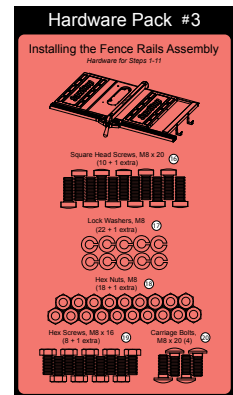

Fig. 1
1. Locate the front rail, the left and right rear rails, and hardware pack #3 (see Fig. 1). All of the hardware needed to install the rails is located on hardware pack #3. In order to easily identify the hardware used in each of the following steps, the different pieces of hardware are numbered on the hardware pack and in the figures. If you are missing hardware pack #3 or any of the other fence assembly components, call the SawStop Service Department at 503-582-9934 for replacements.